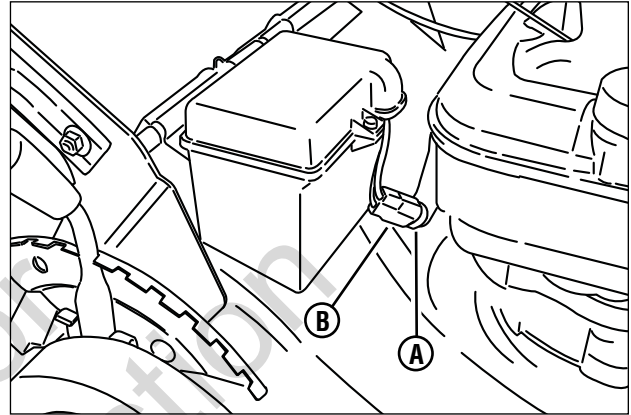

Figure 23: Battery connections
1. Unplug the battery connector (B, Figure 23) from the main harness connector (A).